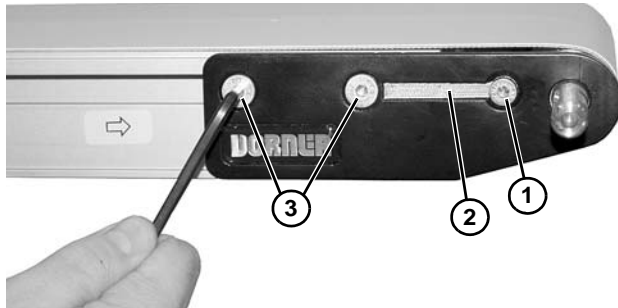

Figure 35
2. On one side of the conveyor, remove screw (Figure 35, item 1) and remove dust cover (Figure 35, item 2), if installed.
3. Remove two fastening screws (Figure 35, item 3).